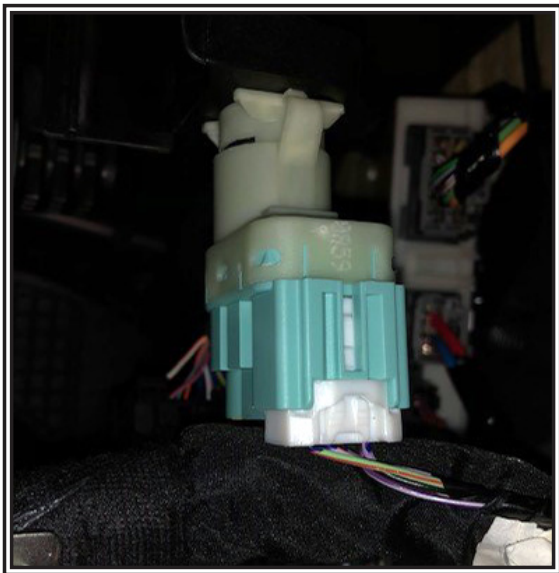

Figure 8
Step 1. Located sensor unit near brake pedal shown in FIGURE 8.